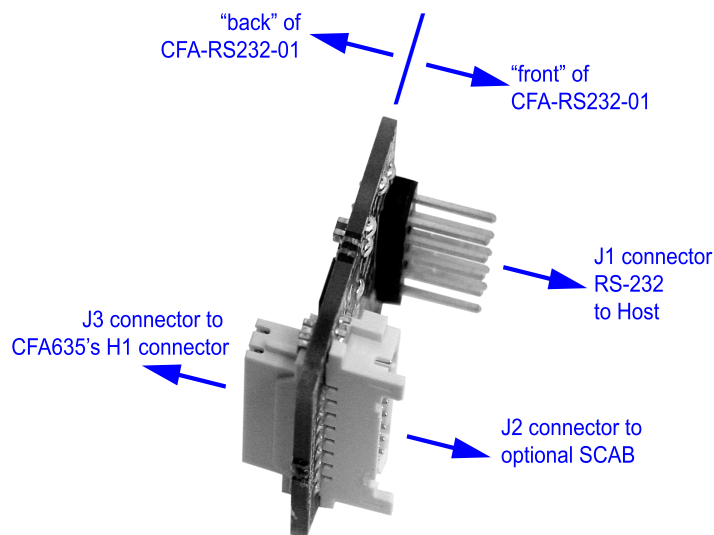

Figure 9. CFA-RS232-01 Serial Converter (Side View)
1. The H1 male 16-pin 2 mm connector mates with the J3 female 16-pin 2 mm connector on the CFA-RS232-01 Serial Converter. For location of J3 connector, see Figure 9. on Pg. 29). For pin assignments, see H1 Pin Assignments - Includes GPIO Connections \(Pg. 33\).